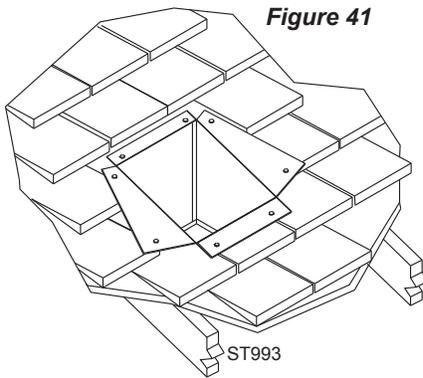

Figure 41
**Step 5.** Using tin snips, cut the support box from the top corners down to the roofline, and fold the resulting flaps over the roof sheathing. The flaps may be trimmed as needed. (Fig. 41) Before nailing it to the roof, run a bead of non-hardening sealant around the support box to make a seal between the support box and the roof. Clean out any combustible material from inside the support box.